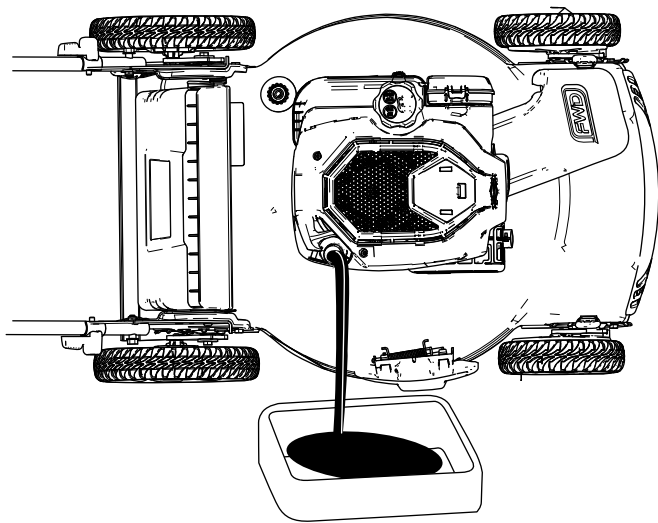

Figure 20
4. Tip the machine onto its side (so that the air filter is up) to drain the used oil from the oil-fill tube (Figure 20).